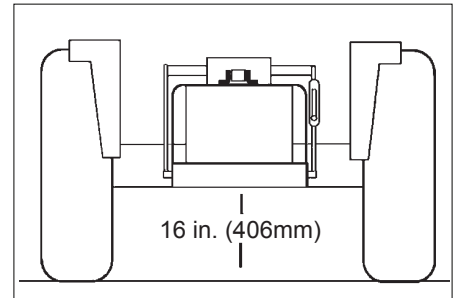

figure 3
9. Raise the hitch until the dimension from the slot in the center of the swing plate to the ground measures 16 inches (406mm). See figure 3